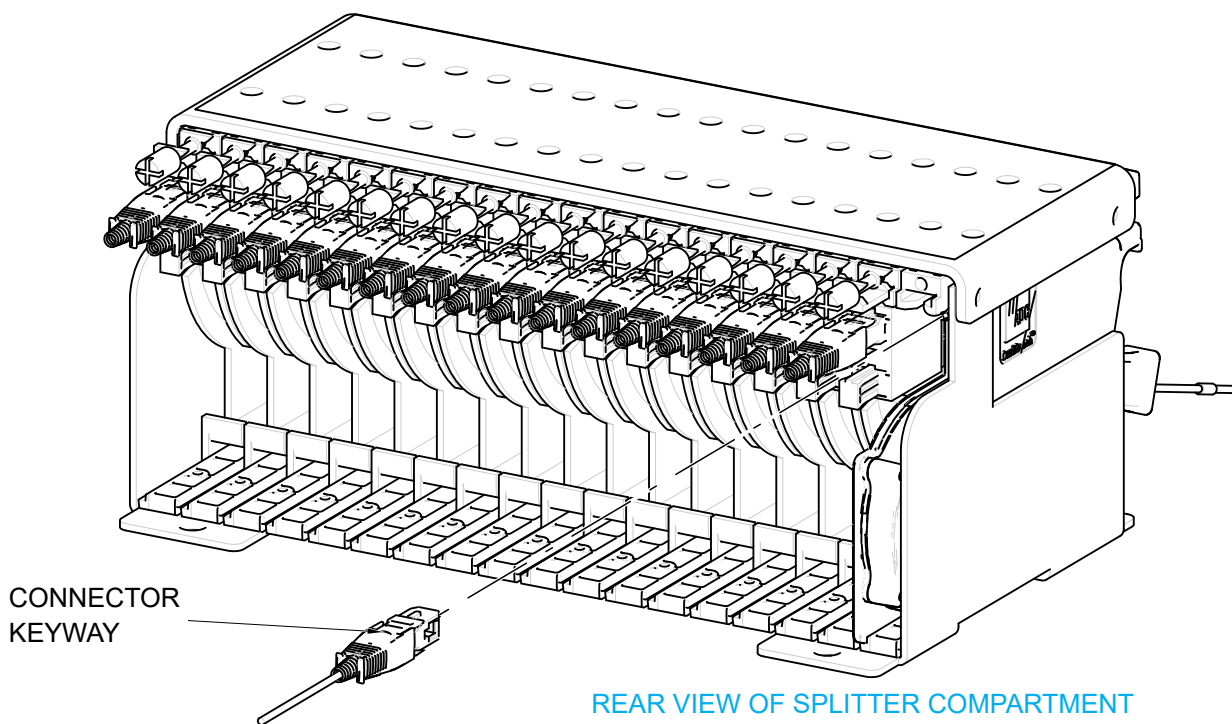

Figure 38. Feeder Cable Connector
17.9 Insert the feeder fiber connector into the appropriate bulkhead adapter (remove dust cap from adapter) at the rear of the splitter compartment as shown in Figure 38.